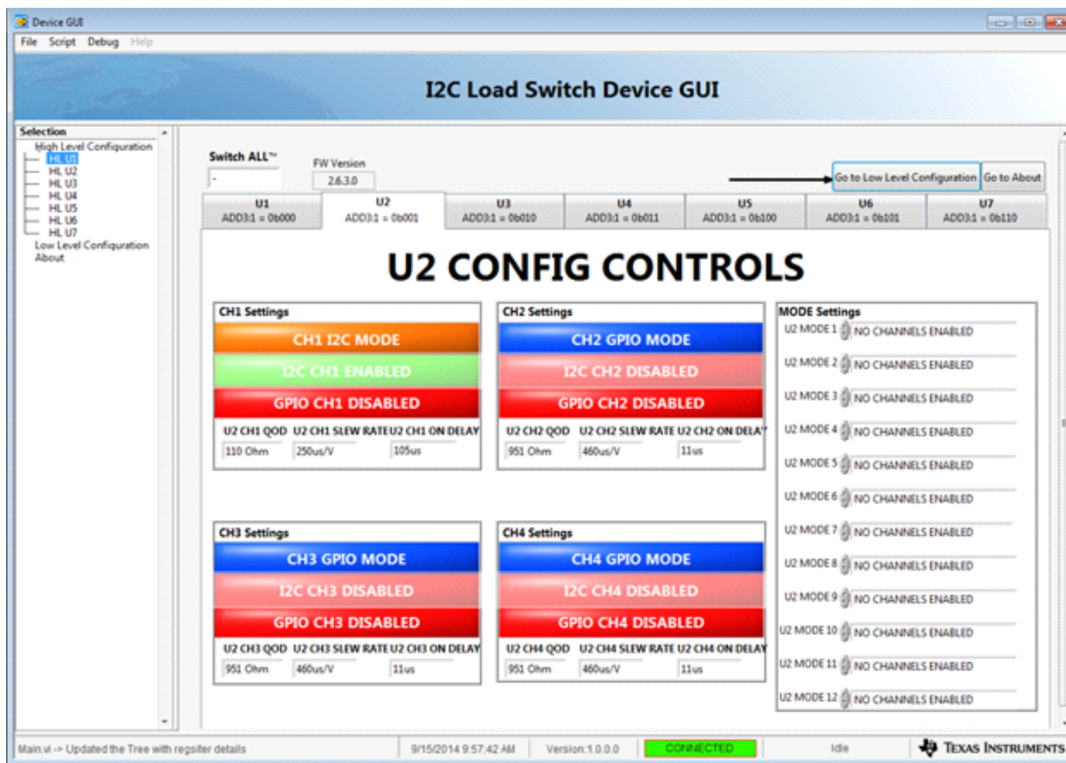

Figure 24. U2 Settings after Executing the Module and Running the Script
- (P) The I²C Load Switch GUI setting for U2 CH2 should now be updated to the setting from the recording after restarting the application and running the script, see Figure 24.